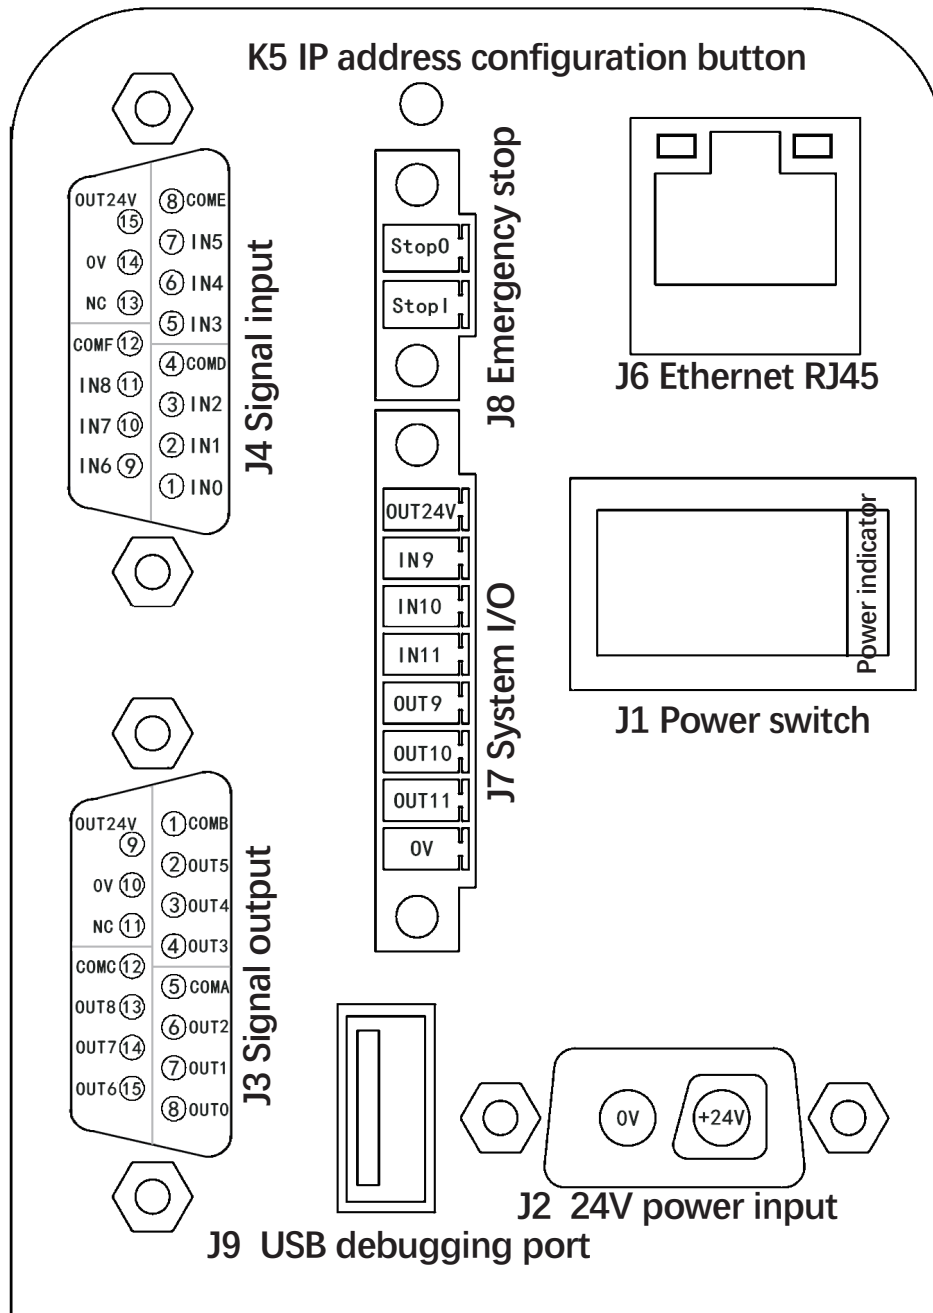

Figure 1
1. General diagram of the base interface A (shown in Figure 1)
## 2. Figure 1 interface definition description